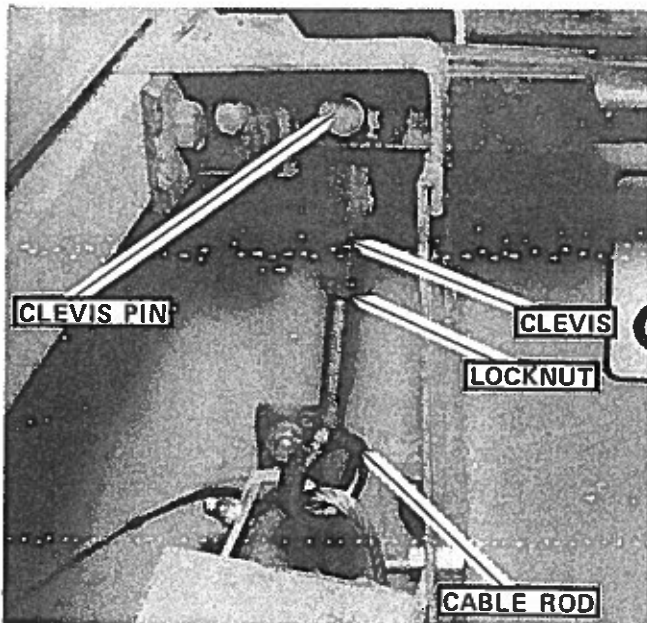

FIGURE 61
2. Disconnect clevis from brake handle by removing the clevis pin. See FIGURE 61.